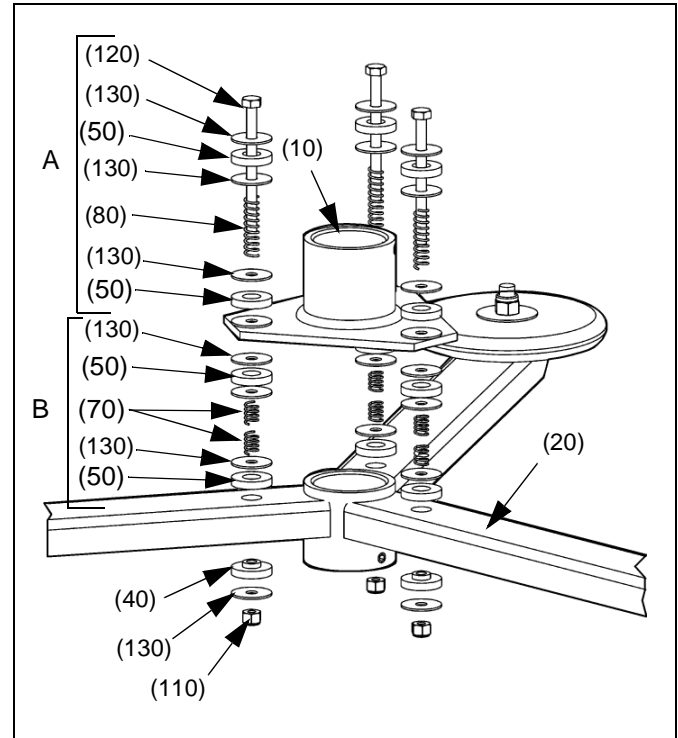

Figure 5: Remove 0-15lb Application Hardware.
2. Loosen and remove 1/4-20 Nylock nut (110), 1/4" fender washer (130), and stepped sorbothane damper (40) located underneath mount arm and set aside for reuse. (see figure 5)
3. Slide 1/4-20 x 4" tap bolt (120) upward, out of mount top (10).
NOTE: Make certain hardware group B (see figure 5) stays in place when removing 1/4-20 x 4" tap bolt (120) and associated hardware.
4. Remove hardware group A (see figure 5) keeping 1/4-20 x tap bolt (120) for reuse in 15lb-35lb configuration.